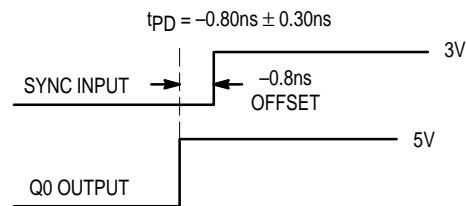

Figure 2. Depiction of the Fixed SYNC to Q0 Offset (tPD) Which Is Present When a 1MΩ Resistor Is Tied to VCC or Ground
- A 1MΩ resistor tied to either Analog VCC or Analog GND, as shown in Figure 2, is required to ensure no jitter is present on the MC88921 outputs. This technique causes a phase offset between the SYNC input and the Q0 output, measured at the pins. The tPD spec describes how this offset varies with process, temperature, and voltage. The specs were arrived at by measuring the phase relationship for the 14 lots described in note 1 while the part was in phase-locked operation. The actual measurements were made with a 10MHz SYNC input (1.0ns edge rate from 0.8V to 2.0V). The phase measurements were made at 1.5V. See Figure 2 for a graphical description.